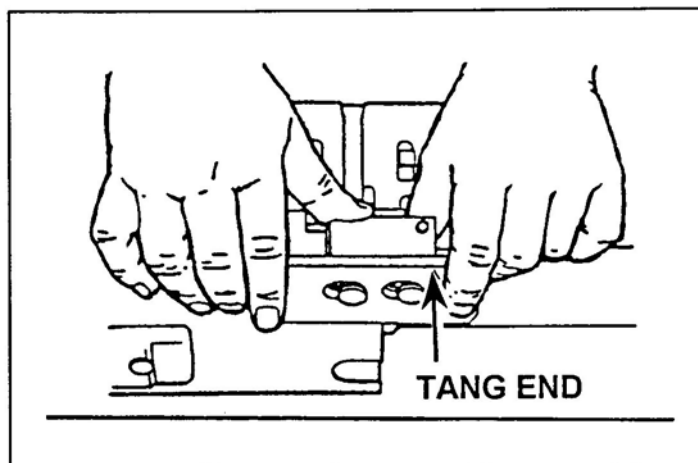

Figure 17. Attachment of the round positioning block.
- (3) Line up the lugs on the charger with the slots in the receiver rail. Insert the charger lugs into the slots.
- (4) Hold the charger tightly against the rail. Slide the charger forward until it locks into place.
- b. Attach the round positioning block (Figure 17).